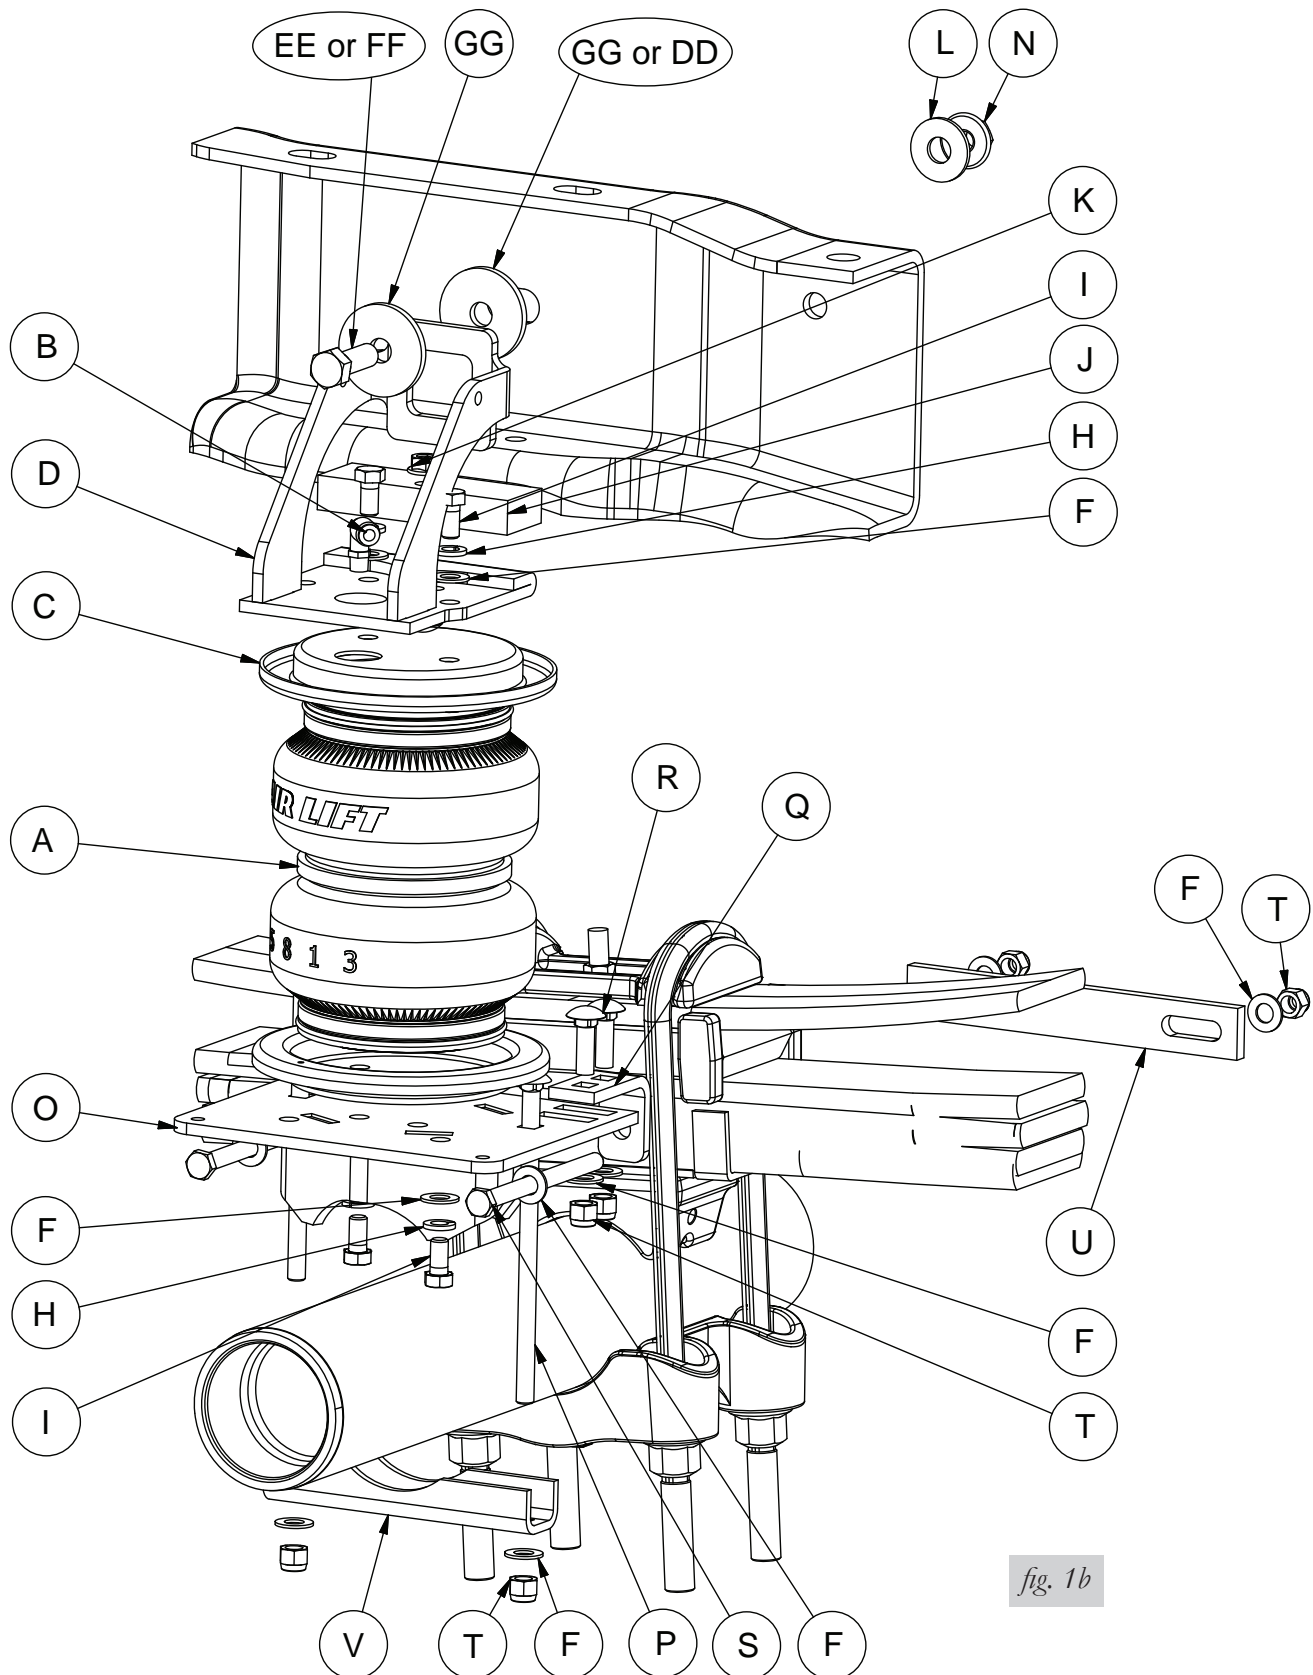

fig. 1b
*The insert for the fitting on top of the bellows points inward (refer to fig. 1a or fig. 1b).*